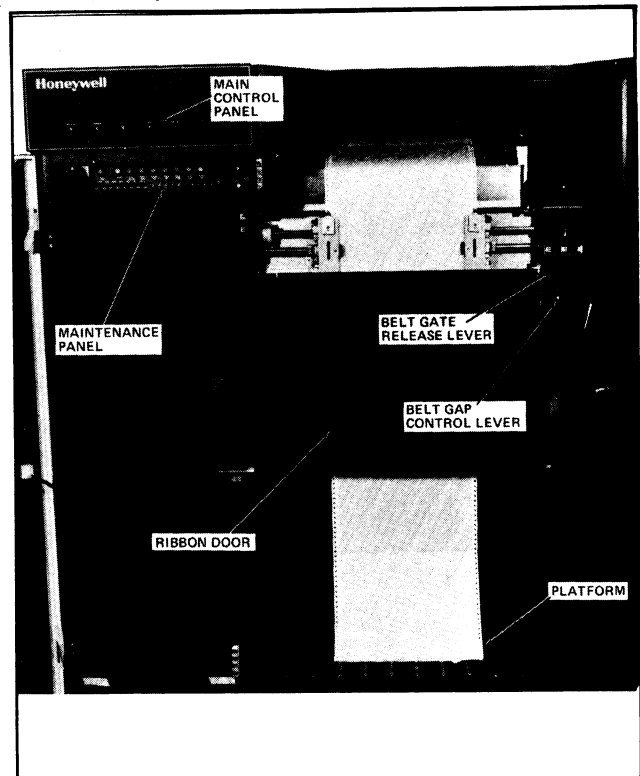

Figure 3-1. Printer Assembly Front View
3. To gain access to paper track, open both front doors and then open belt gate by pulling release lever on right-hand end of gate (Figure 3-1, 3-2).
4. Remove paper from box and then place paper on platform (Figure 3-1, 3-2).
2. Open front doors and then the ribbon door, which covers front of belt gate (Figure 3-1, 3-2) by pulling on right-hand side. (The ribbon door separated from the belt gate is shown in Figure 3-23.)